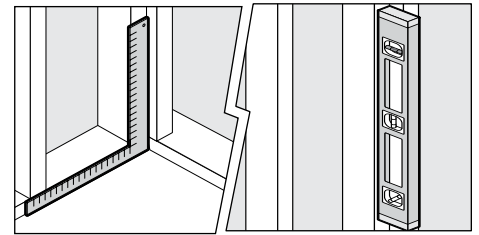

FIGURE 1. Check that studs are plumb with sub-floor/base.
- b. Alcove should be constructed as shown above. Studs should be plumb and square to sub-floor (Fig 1).